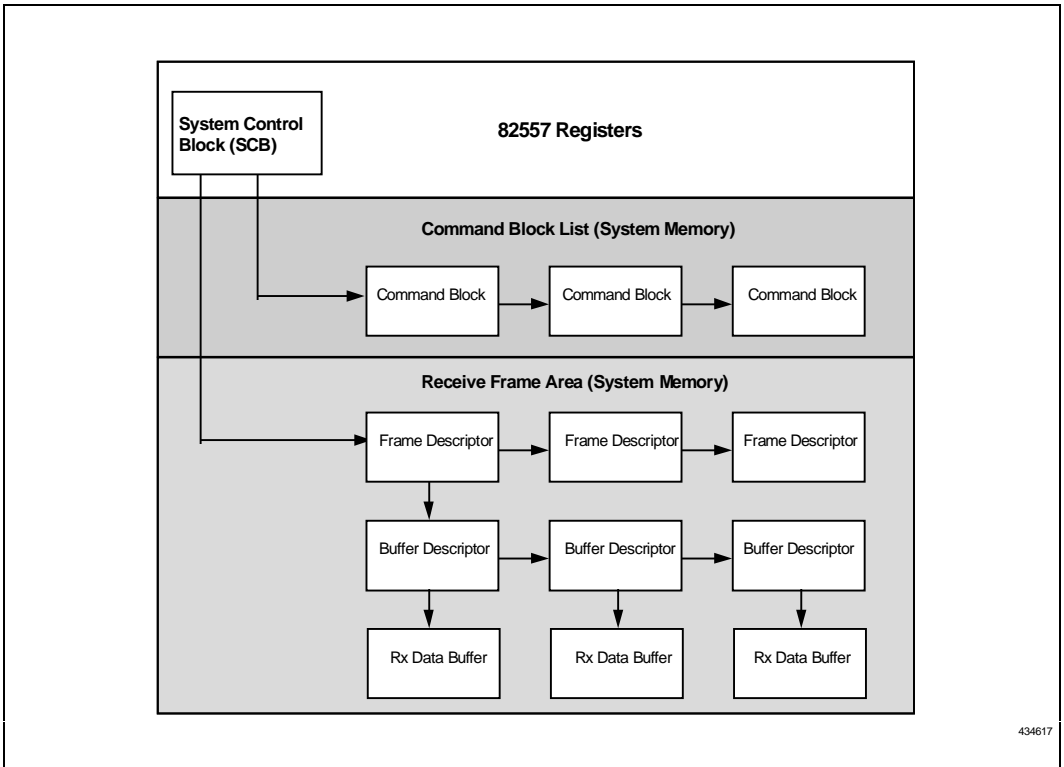

Figure 16. 82557 Shared Memory Structure
The host software controls the state of the 82557 Command Unit (CU) and Receive Unit (RU) (i.e., Active, Suspended or Idle) by writing commands to the SCB. The 82557 posts the status of the CU and RU in the SCB Status word and indicates status changes with an interrupt. The SCB also holds pointers to a linked list of action commands called the CBL and a linked list of receive resources called the RFA. Figure 16 shows this type of structure.